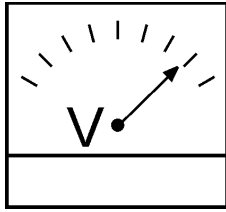

**Figure 41. Frequency Meter**
5. The generator's frequency meter (Figure 41) should be displaying the 50 cycle output frequency in **HERTZ**.